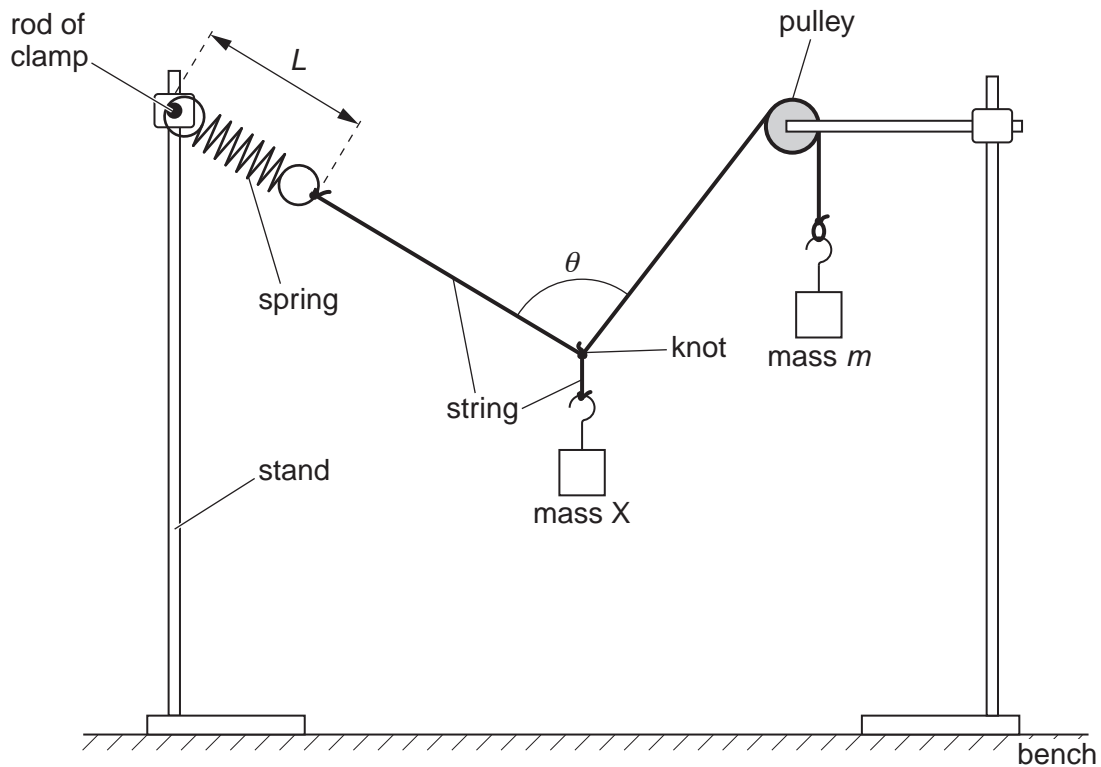

Fig. 1.2
- (b) (i) Set up the apparatus as shown in Fig. 1.2. Mass  $m$  should be 0.200 kg.